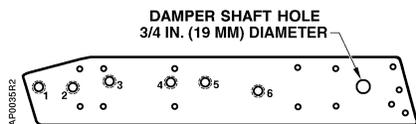

Figure 1. Actuator Mounting Plate.
1. Slip 3/4-inch (19-mm) diameter hole in the mounting plate over the damper shaft (Figure 1).